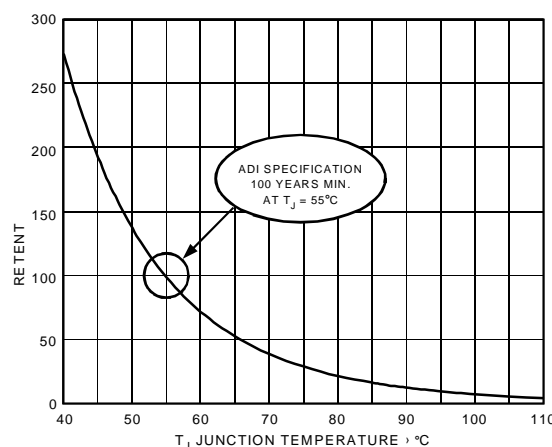

Figure 26. Flash/EE Memory Data Retention
**Retention** quantifies the ability of the Flash/EE memory to retain its programmed data over time. Again, the ADuC834 has been qualified in accordance with the formal JEDEC Retention Lifetime Specification (A117) at a specific junction temperature ( $T_J = 55^{\circ}\text{C}$ ). As part of this qualification procedure, the Flash/EE memory is cycled to its specified endurance limit described above, before data retention is characterized. This means that the Flash/EE memory is guaranteed to retain its data for its full specified retention lifetime every time the Flash/EE memory is reprogrammed. It should also be noted that retention lifetime, based on an activation energy of 0.6 eV, will derate with  $T_J$  as shown in Figure 26.